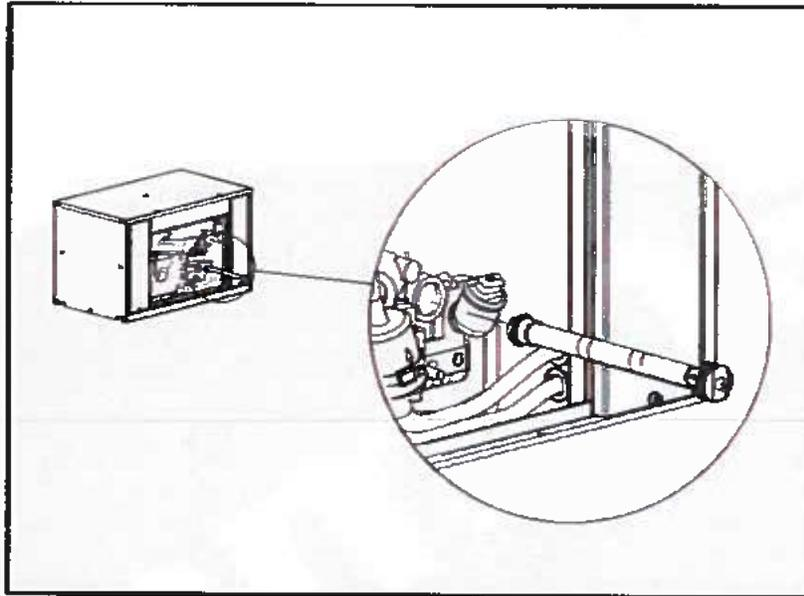

FIGURE 7. OIL STRAINER
10. Loosen the center screw of the oil strainer (about five turns) and withdraw the strainer from the engine block (see Figure 7).